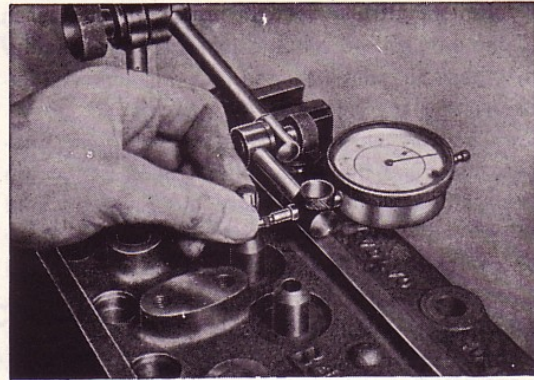

Fig. 21. Measuring valve stem clearance
2. Measure the clearance between the stem and guides as shown in Fig. 21. With a new valve the clearance should not exceed 0.15 mm (0.006"). Also check that the valves are not excessively worn. See the specifications under the headings "Valve system" and "Wear tolerances".